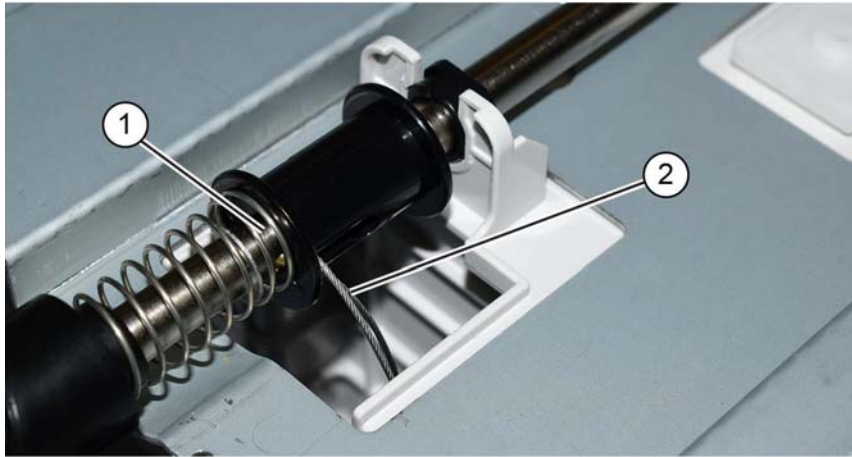

Figure 2 Rear cables
6. Release the rear lift cables, Figure 2:
- a. Pull the spring away from the pulley, then remove the E-clip (1).
- b. Release the rear lift cables (2).